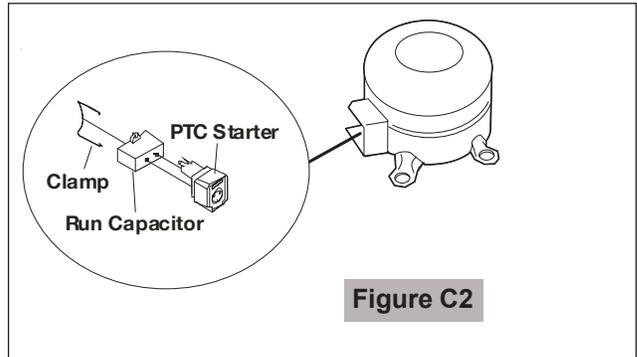

Figure C2
3. Remove relay assembly from compressor. (See Figure C2)